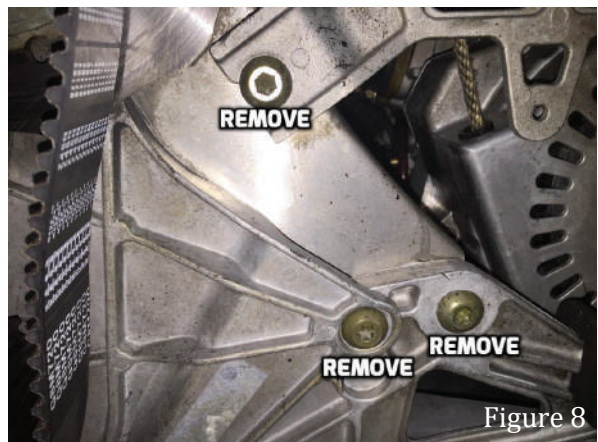

Figure 8
7. Remove 3 bolts with #40 Torx, the 2 longer bolts to be reused in tensioner installation and the forward upper bolt uses a nut on the back side, this nut is also reused. See fig 8